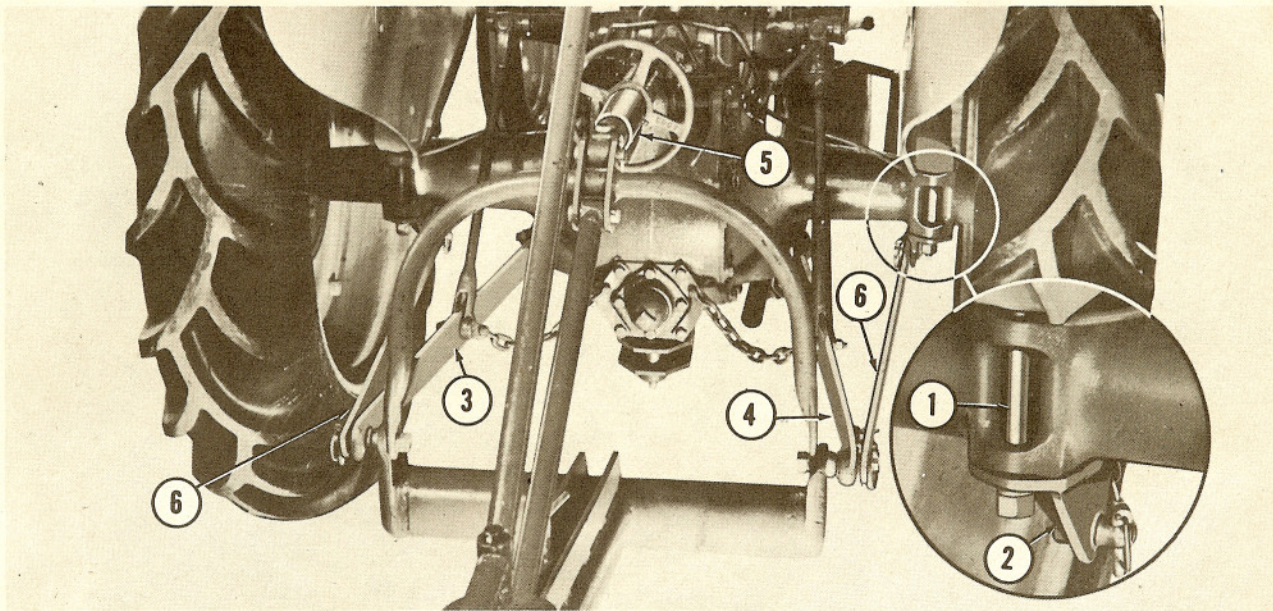

Figure 7
- a. Remove the fender bolts and replace with long bolts (1), insert Figure 7, provided with stabilizer bracket. Do not remove fenders. (In some cases the tractor fender bolts may be long enough to hold the bracket.)
- b. Attach the stabilizer brackets (2) as shown in the insert, Figure 7. Secure with lockwashers and nuts.
2. Attach the lower left link (3), Figure 7,
3. Attach the pitch control link (5) to the main control spring yoke.
4. If stabilizer bars (6) Figure 7 are used attach them as shown. Secure with linch pins.